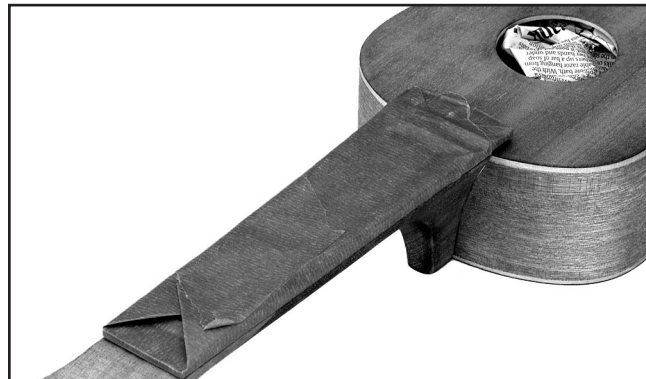

Figure 12. Example of a masked fingerboard and stuffed sound hole.
- Mask the fingerboard and nut location, (see **Figure 12**).
- Fill the sound hole with newspaper, (see **Figure 12**).